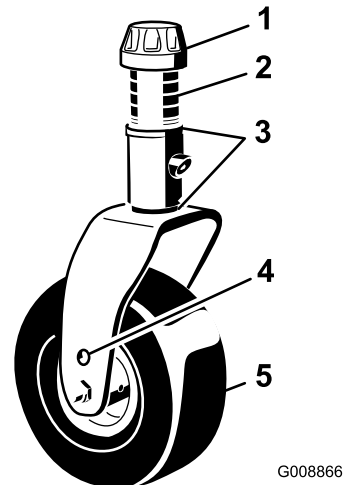

Figure 14
11. Adjust 1/8 inch shims on castor fork(s) to match height of cut to decal (Figure 14); refer to Adjusting the Cutting Unit Pitch.